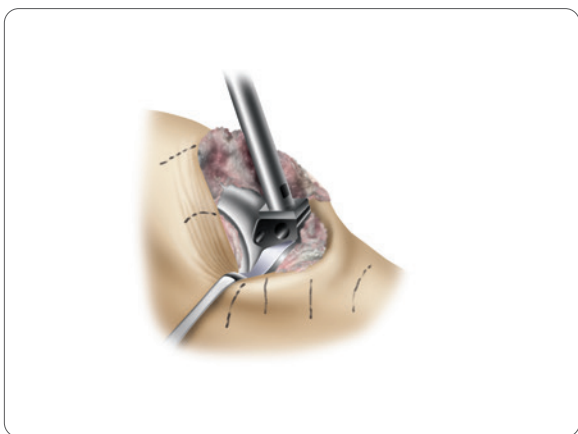

Figure 68
3. Use the impactor handle with the appropriately sized impactor head to fully seat the insert and engage the anterior portion of the dovetail locking mechanism (**Figure 68**).